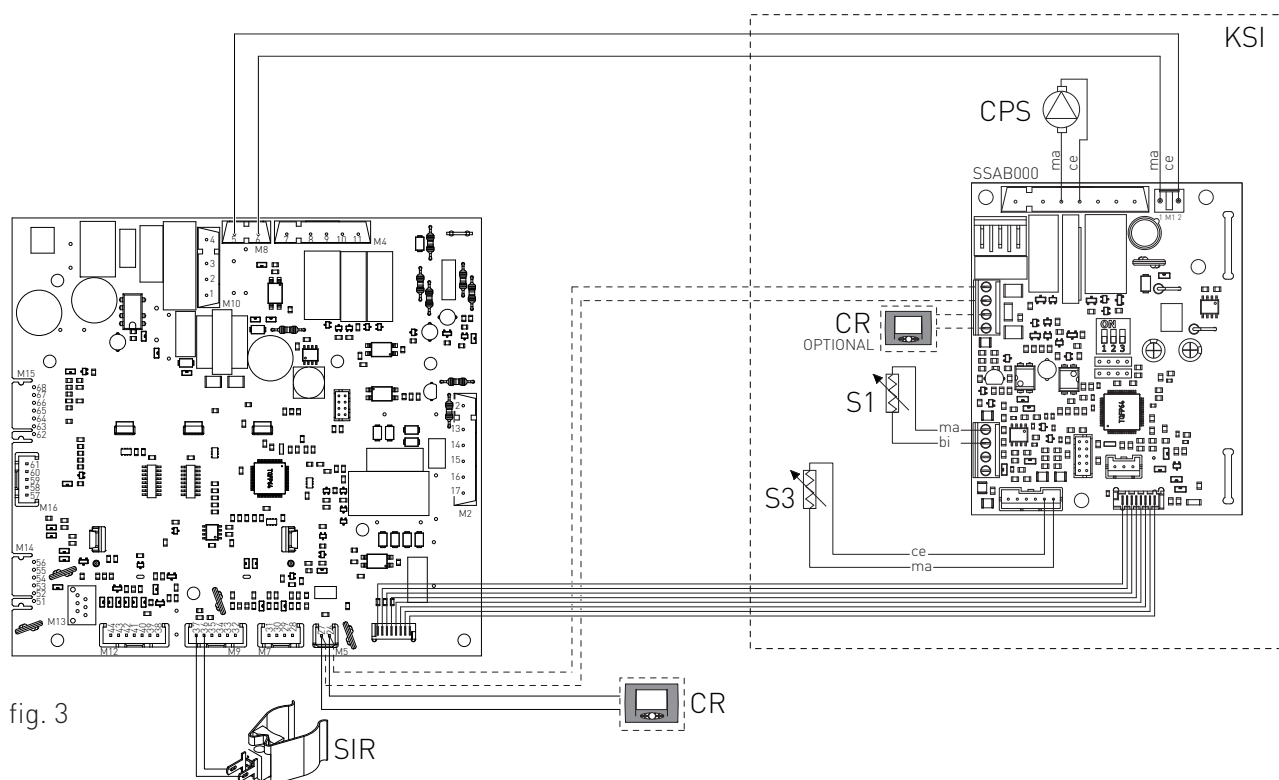

fig. 3
- > adjust the setting of the return temperature by pressing **+** and **-** (fig. 3). The activation of the pump is displayed onto the control panel by means of the pump **▶** symbol.
- › Set the temperature setpoint of the D.H.W. tank by pressing **+** and **-** the sanitary  (fig. 3).
› after removing the crankcase, connect the items below to the electronic board (see fig. 3):